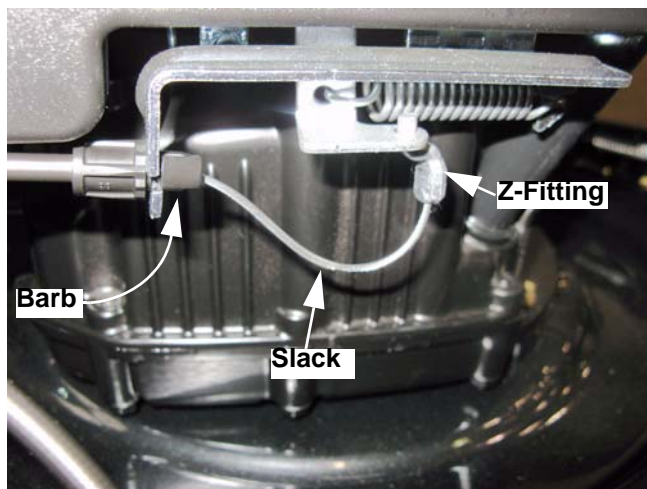

Figure 3.6
7. Use the slack created in the cable to release the Z-fitting from the engine stop control on the engine. See Figure 3.6.